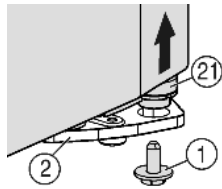
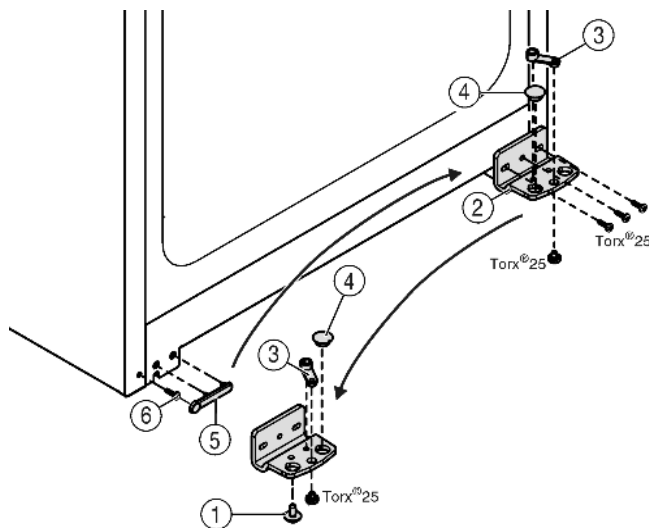

Fig. 5
Fig. 6
- ▷ The bearing pin *Fig. 5 (21)* should come out of the turn hinge *Fig. 6 (2)*.
- If the bearing bolt *Fig. 5 (21)* doesn't undo press it out from underneath.
- Unscrew the turn hinge *Fig. 6 (2)*.
- Unscrew the bearing element, *Fig. 6 (3)* transfer it to the opposite location hole of the turn hinge and screw it firmly into place.
- Take the stopper *Fig. 6 (4)* out of the turn hinge and transfer it to the receiving hole on the opposite side of the turn hinge.
- Carefully lift off the cover *Fig. 6 (5)* on the handle side.
- Undo the screw *Fig. 6 (6)* and transfer it to the opposite side.
- Put the cover *Fig. 6 (5)* back on.
- Screw the turn hinge *Fig. 6 (2)* firmly into place on the new hinge side (**with 4 Nm**), possibly using a power screwdriver.
- Insert the securing screw *Fig. 5 (1)* at the bottom into the bearing pin and tighten it (**with 4 Nm**).